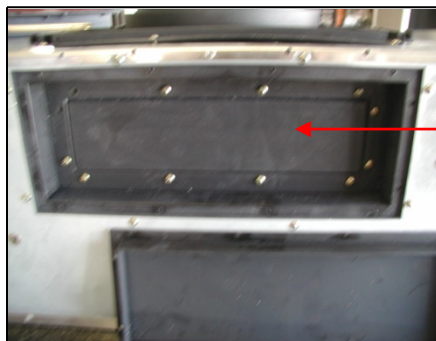

Figure 8
- Remove the screws on the vent cover (rear) and cut along the line of the inner vent cover (rear) opening. Refer to Figure 8.